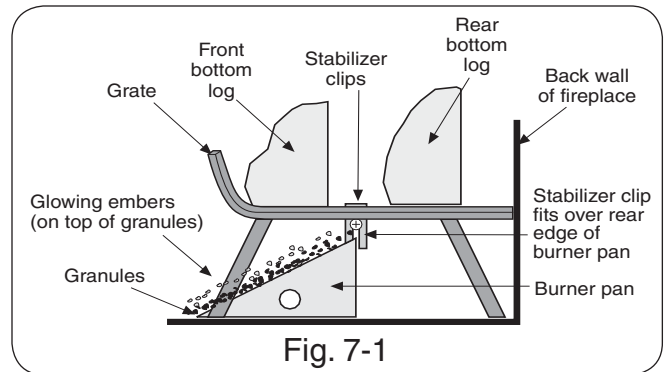
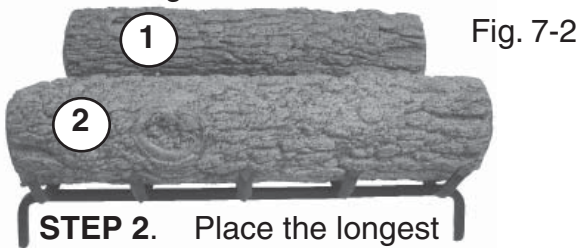

Fig. 7-1
Fig. 7-2
Log placement is very important for the proper operation of the Real-Fyre® gas log set. Although you have some flexibility in the log arrangement, it is necessary to follow the LOG PLACEMENT instructions carefully to fully enjoy your log set. Follow the steps below, referring to Fig. 7-1 through Fig. 7-5.
1. The second-longest log, the rear log, is placed on the rear of the grate with the bark of the log facing forward (Fig. 7-1). Center the log left to right (Fig. 7-5, #1).
2. The longest log, the front log, is placed on the front of the grate with the bark facing forward. Center left to right (Fig. 7-2, #2). **NOTE: Be sure to maintain a space between the front and rear logs** (Fig. 7-1).